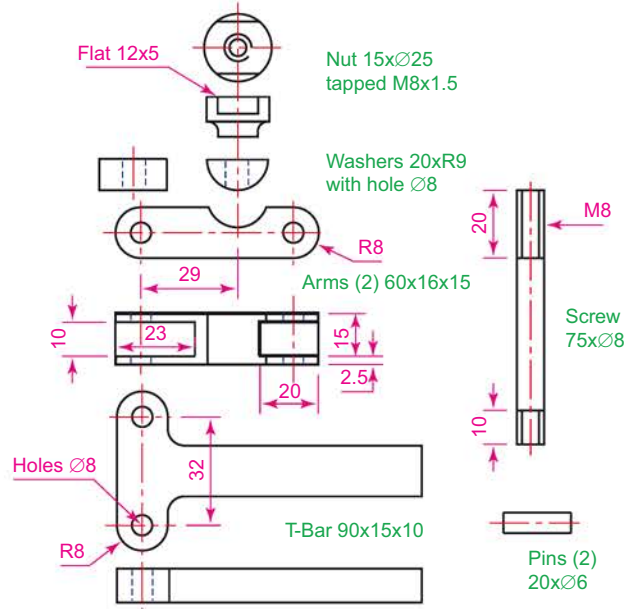

Fig. 11.1 The components of a lathe milling wheel holder
1. Construct 3D models of the parts for a lathe milling wheel holder to details as given in Fig. 11.1, each on a layer of different colours.
2. Save each of the 3D models of the parts as blocks to the names given in Fig. 11.1 using **Create Block** from the **Insert/Block Definition** panel. Delete all seven models and save to a file named **Fig04.dwg**.